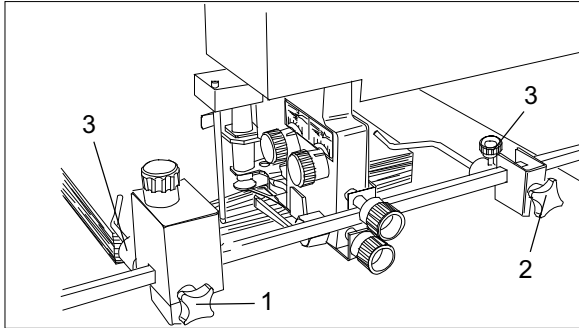

Fig. 25 Hold-down rods
1. Slide the left (Fig. 25/1) and right (Fig. 25/2) hold-down rods towards the outer edge of the paper stack (about 2 cm inside the edge).
2. Set the pressure of the hold-down rods (Fig. 25/3) as follows: